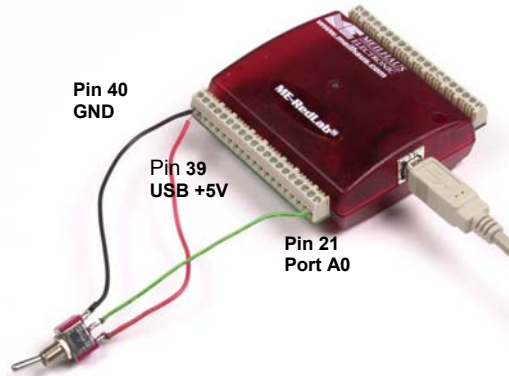
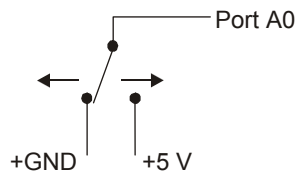

Figure 5. Digital connection of Port A0 detecting the state of a switch
Figure 6. Schematic showing switch detection by digital channel Port A0
When configured for input, you can use the RedLab 1024HLS digital I/O terminals to detect the state of any TTL level input. Refer to the switch shown in Figure 5 and the schematic shown in Figure 6. If you set the switch to the +5 V input, Port A0 reads TRUE (1). If you move the switch to GND, Port A0 reads FALSE.